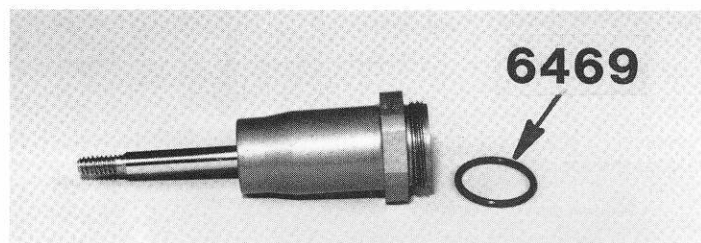

Fig. 123
□ **Fig. 123** Locate the four #6469 black O-rings in the shock accessory bag (inside the main shock bag). Install one black O-ring over the threads of the shock body, and seat it flush in the pocket at the bottom of the threads.